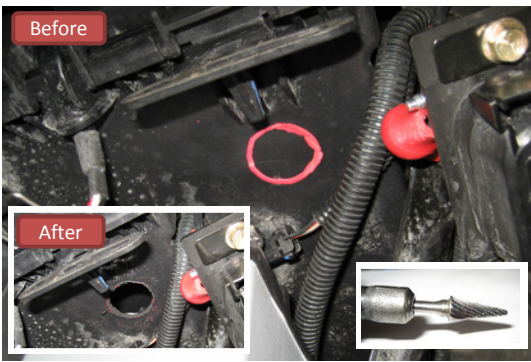

Figure 36
- Drill hole in the bottom of the dry box to run cables to the contactor. The hole should be big enough to run the largest diameter cable - in this case the handle bar switch cable is the biggest piece. See (Figure 36) for before and after pictures as well as the dremel bit used - any cutting bit will do.